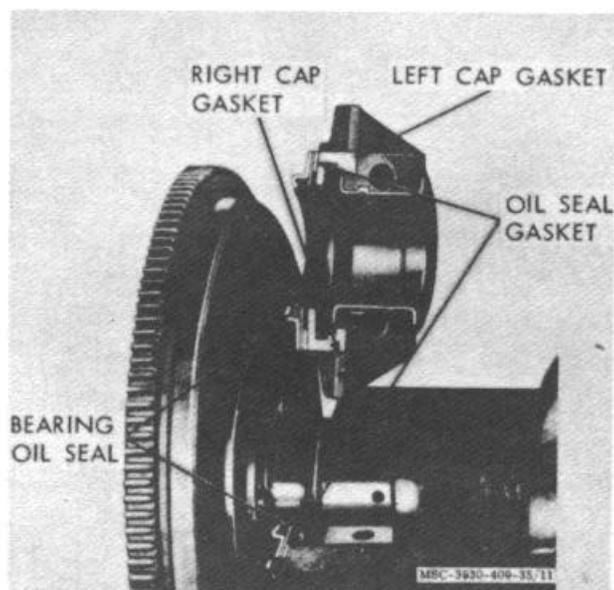

Figure 3-21. Rear bearing oil seals, installed.
b. Install oil seals in rear main bearing cap as illustrated in figure 3-21, and carefully guide crankshaft into position in cylinder block.